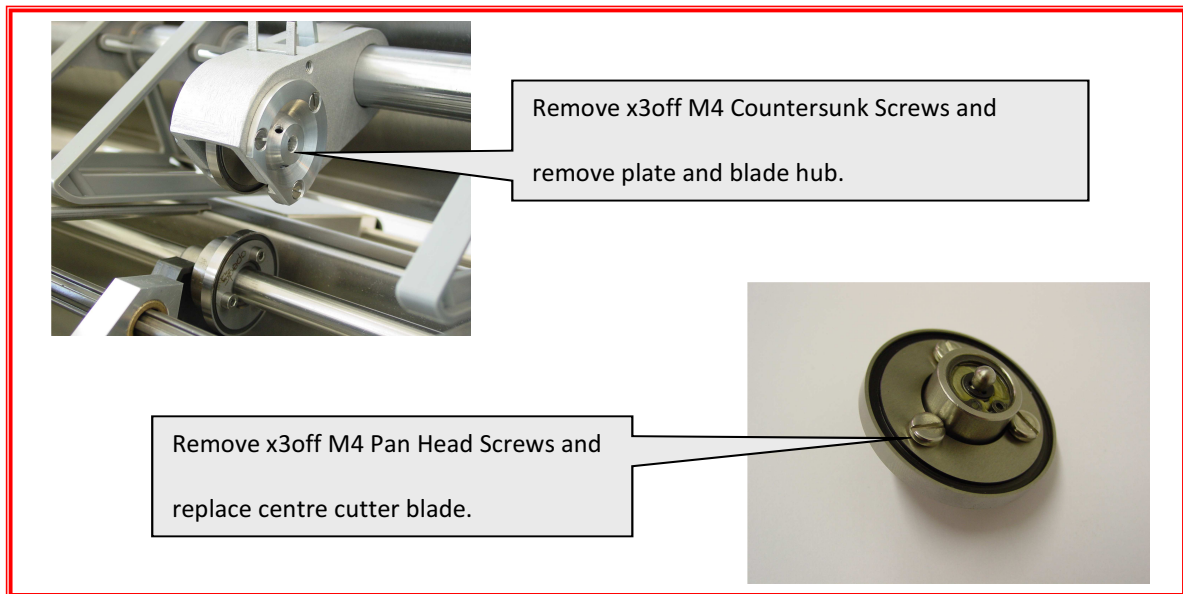

Fig 3.2 Renewal of Upper Centre Cutter Blade
- Check the sharpness of the centre cutter blades. Renew if necessary (Fig 3.2).
UPPER CENTRE CUTTER BLADE (FIG 3.2)